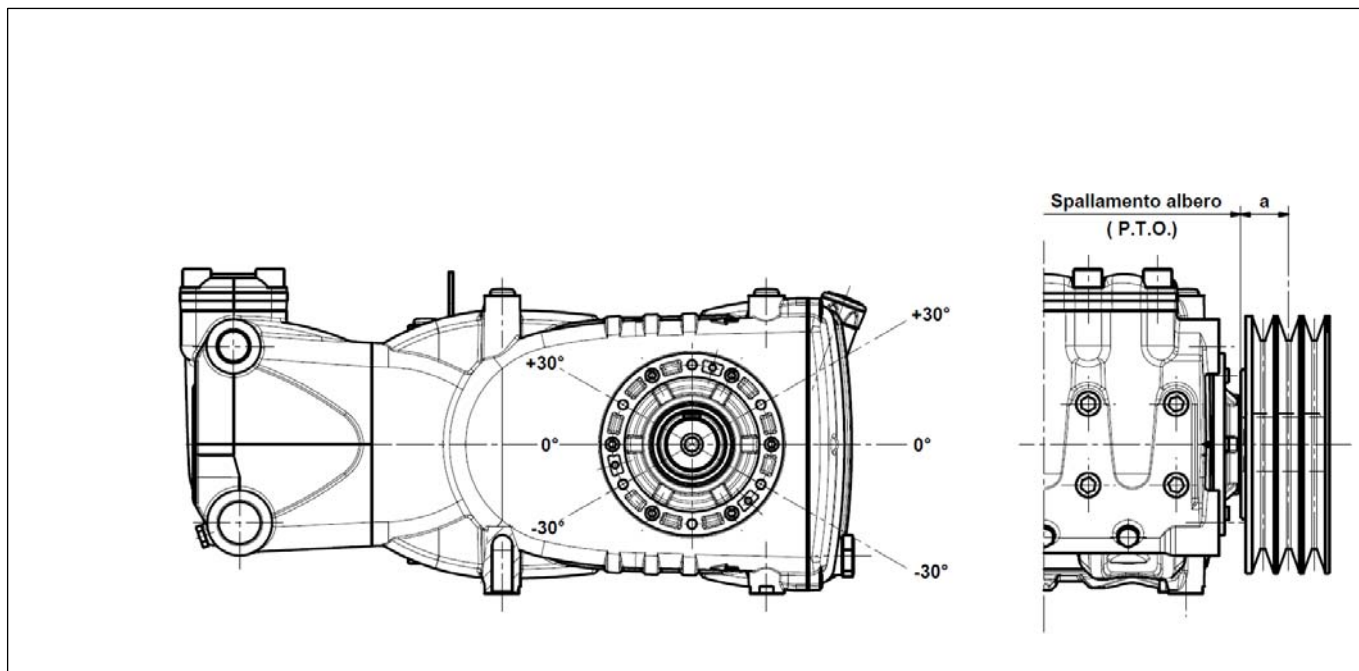

fig. 10
The radial load on the shaft must not exceed 4500 N (value necessary for Layout definition). The transmission is considered adequate if the load is applied to a maximum distance **a=50 mm** from the shaft shoulder (P.T.O) as shown in fig. 10.
- b) Use high performance belts – for example **XPB** instead of **SPB** – as a lower quantity of belts for the same transmitted power may be necessary and a consequent shorter resulting distance compared to the shaft shoulder (P.T.O). "a" of fig. 10
- e) Follow the direction of the belt pull as shown in fig. 10; for other needs, contact our **Technical or Customer Service Departments**.